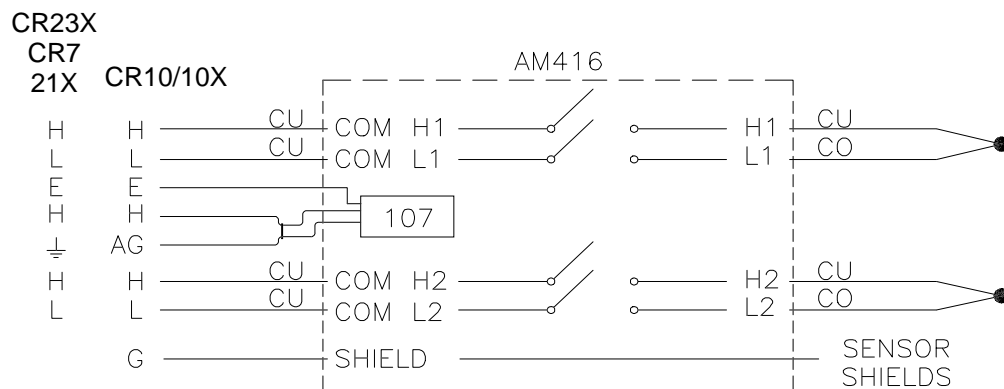

Figure 15 Differential Thermocouple Measurement with the Reference Junction at the AM416
2. Some thermocouple wires have a greater resistance than copper, which adds resistance to the non-thermocouple sensor circuit. For example, constantan is approximately 26 times more resistive than copper. If a mix of TCs and other sensor types are multiplexed through the AM416, it is generally best to locate the reference junction on the AM416, as shown in Figure 15.
AM416 Reference: An external reference, usually a thermistor, may be located at the AM416, as shown in Figure 15. This approach requires an additional single-ended datalogger input to measure the reference temperature. Locate the reference between the COM terminals and, when practical, measure the thermocouples on SETs that are in close proximity to the COM terminals in order to minimise thermal gradients.